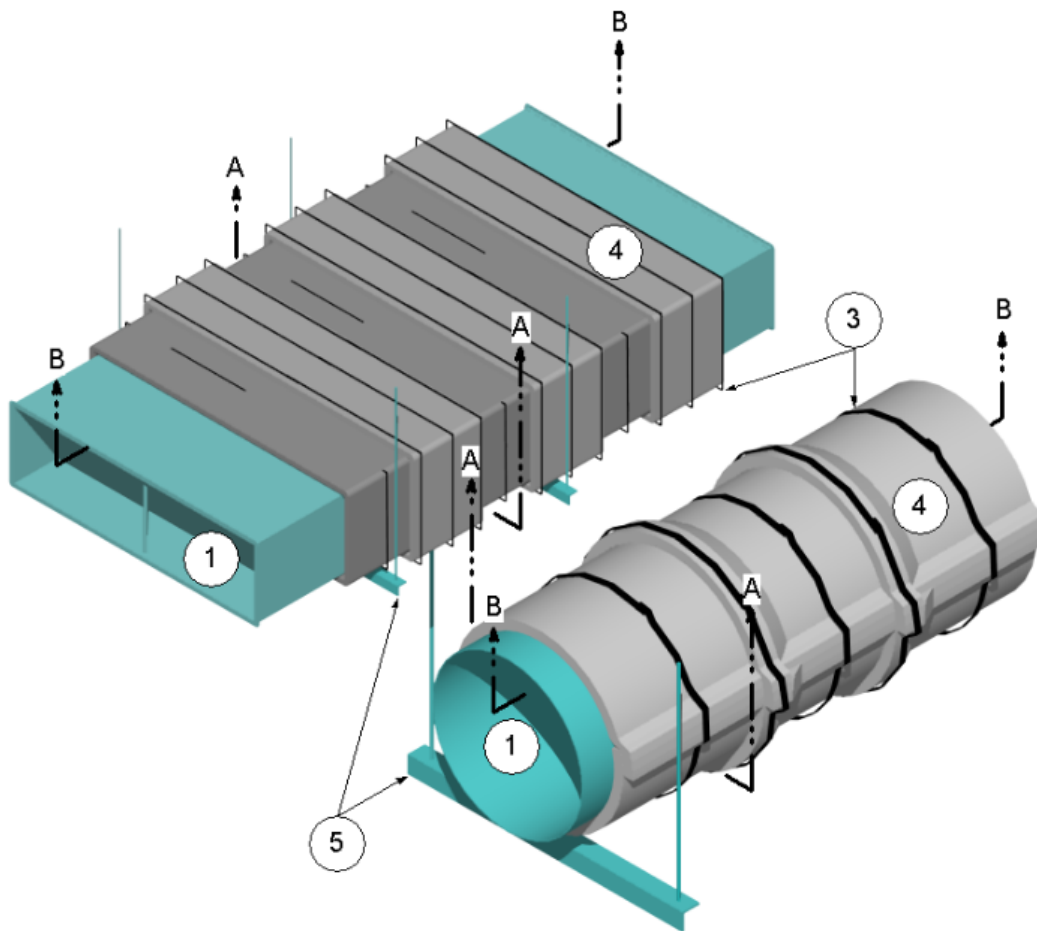

Figure 1
1. VENTILATION DUCT: Refer to Figure 1. Continuous, air-tight, rectangular or circular duct system with either horizontally or vertically oriented shafts constructed of sheet steel with a maximum